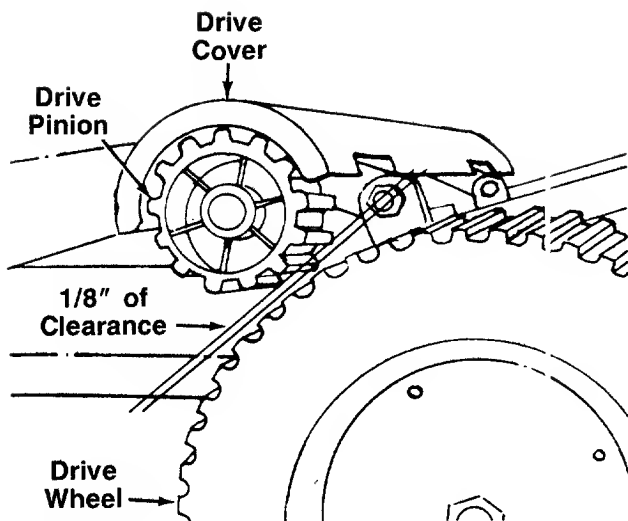

FIGURE 6.
**NOTE:** If necessary, push down on the drive cover (see figure 6) to obtain sufficient slack in the cable.
When the clutch control is engaged (clutch control handle is squeezed against the upper handle), the drive pinions should mesh with the gear tread tires. The drive pinions should clear the drive wheels when the clutch is disengaged by a minimum of 1/8". See figure 6.
The drive pinions should be a minimum of 1/8" from the drive wheels when the clutch is disengaged (clutch control handle is not squeezed against upper handle). Refer to figure 6. When the clutch control is engaged, the drive pinions should mesh with the tires.